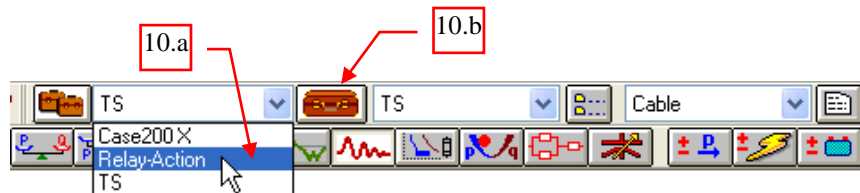

Fig. 5
10. Edit the study case “Relay-Action”. See Fig. 5